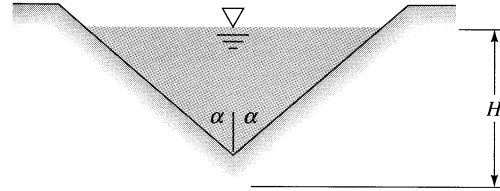

Fig. P10.118
**10.118** Using a Bernoulli-type analysis similar to Fig. 10.16a, show that the theoretical discharge of the V-shaped weir in Fig. P10.118 is given by
$$\text{but from Fig. P10.118 } \frac{b_0}{H} = 2 \tan \alpha$$
**10.119** Data by A. T. Lenz for water at 20°C (reported in Ref. 19) show a significant increase of discharge coefficient of V-notch weirs (Fig. P10.118) at low heads. For  $\alpha = 20^\circ$ , some measured values are as follows: